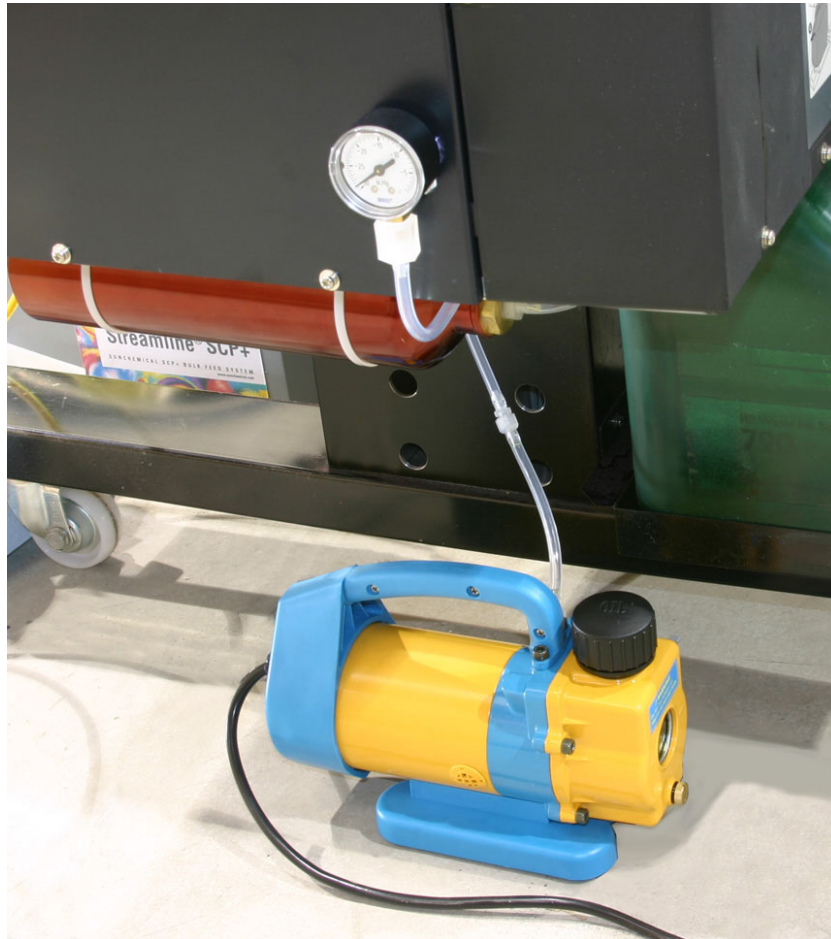

Figure 3. Placement of a vacuum gauge and a vacuum pump.
3. Mount the vacuum gauge using the sticky Velcro pad supplied with it, as shown on Fig. 3.